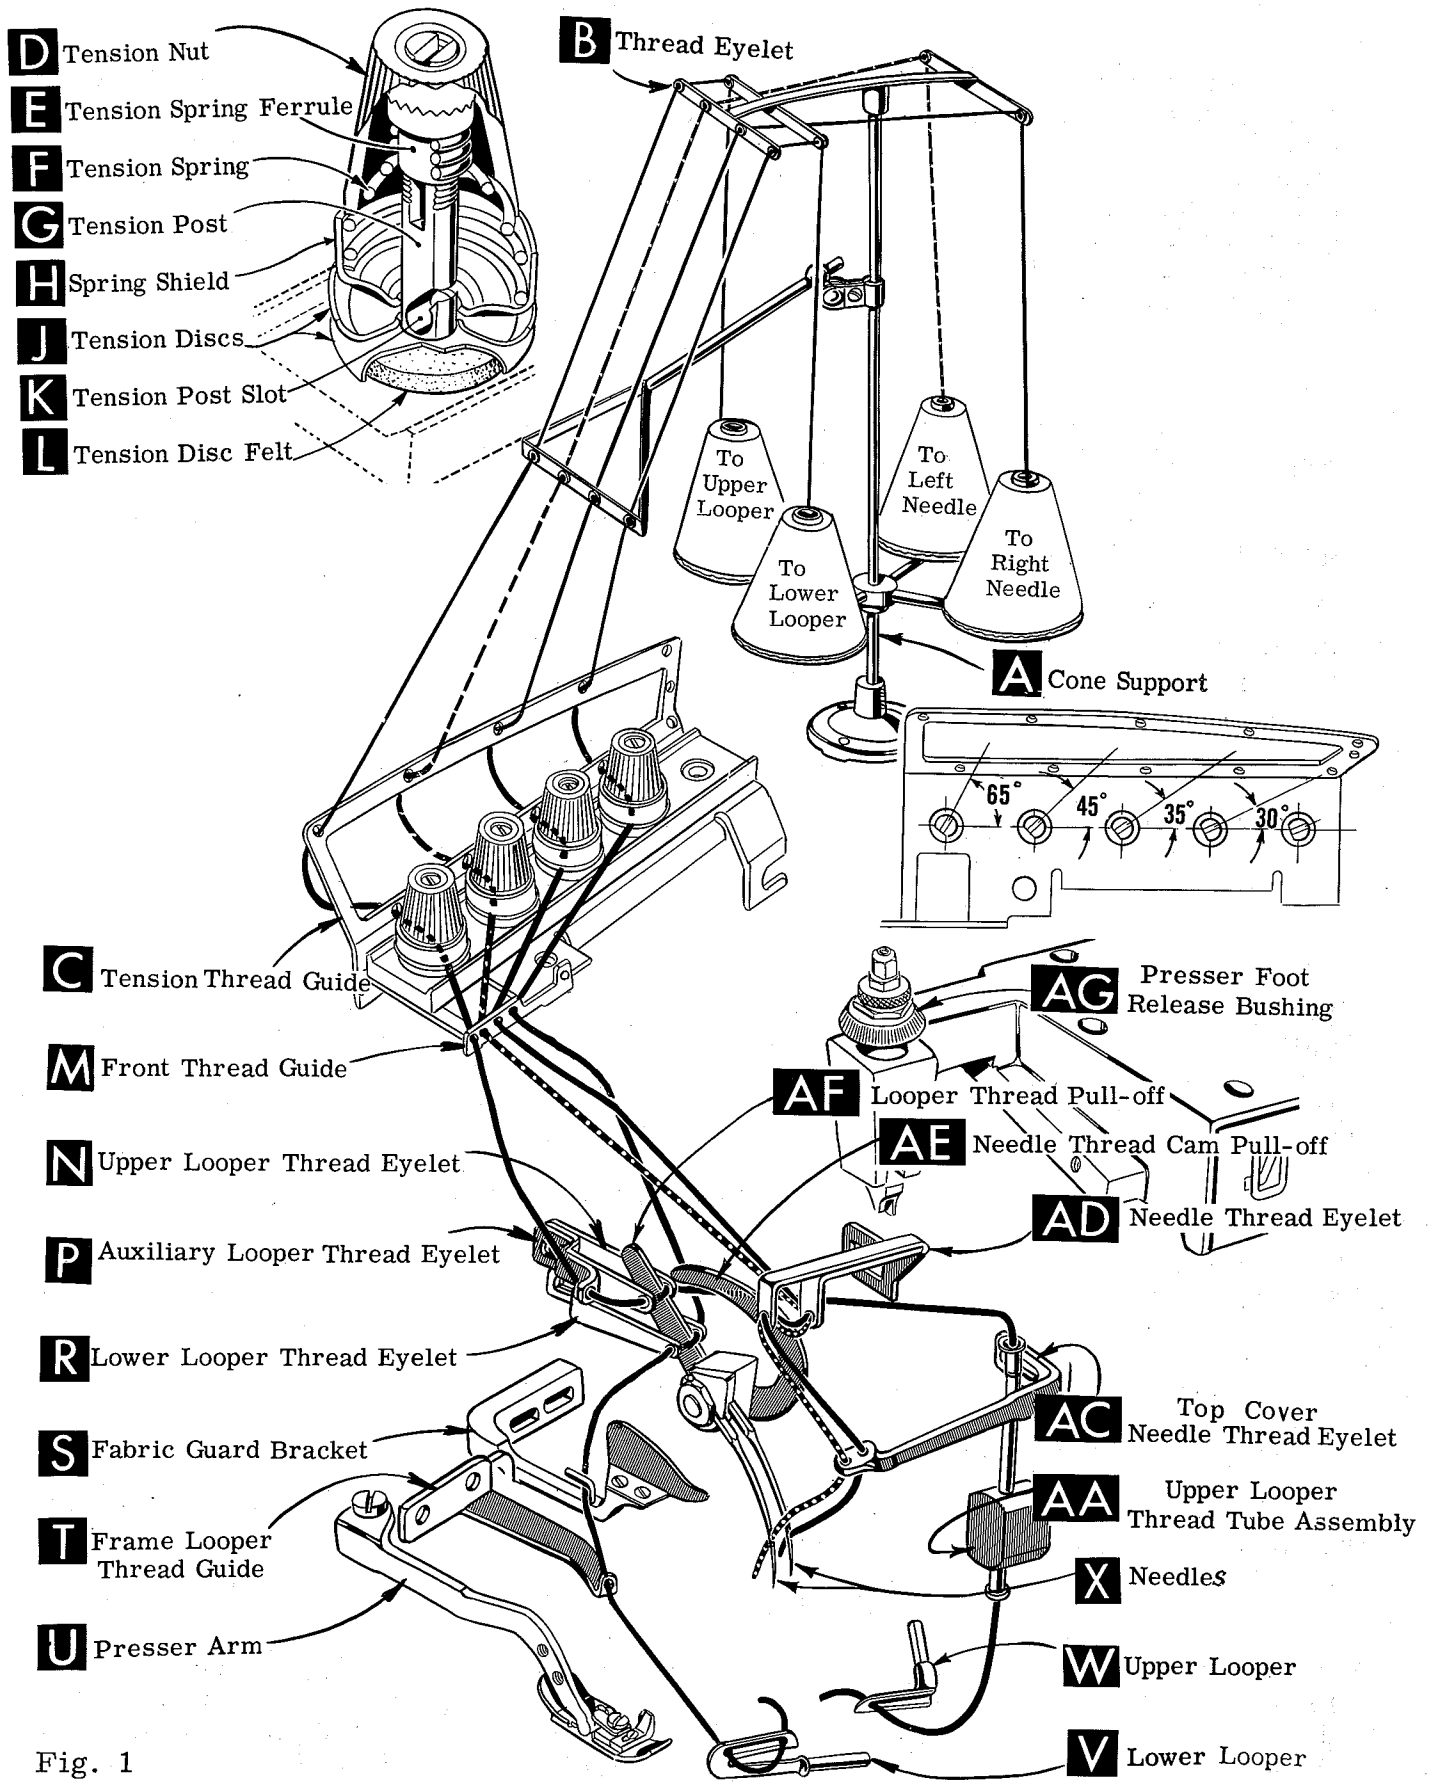

Fig. 1
Release pressure on presser foot by turning presser foot release bushing (AG, Fig. 1) and swing presser arm (U) out of position. Turn handwheel in operating direction until needle is at its lowest point of travel. Using hexagonal socket wrench No. 21388 AU, furnished with machine, loosen needle clamp nut about 1/4 turn. Again turn handwheel until needle is at high position; withdraw needle.
After thread comes from cones on cone support (A, Fig. 1), the needle threads are threaded through the back bar of the thread eyelet (B), under the middle bar and through the center holes of the front bar. The looper threads come from the cones, through holes of the middle bar from back to front and then through the two outside holes of the front bar. Next it is threaded through the upper holes of tension thread guide (C) front to back and then through the lower holes from back to front. The threads continue between the tension discs (J), through tension post slot (K) in tension post (G) and on through front thread guide (M).
Only parts involved in threading are shown in the threading diagram (Fig. 1). Parts are placed in their relative positions for clarity.
Be sure the threads, as they come from the tension thread guide (C), are between the tension discs (J) and in tension post slot (K) in tension post (G). The tension posts should be positioned so the tension post slot will be at the approximate angle for the different threads as indicated in Fig. 1.
Double end of thread and lead it through both eyes of lower looper thread eyelet (R, Fig. 1) from right to left. NOTE: Thread must pass in front of looper thread pull-off (AF). Lead thread behind fabric guard (S) and through hole of frame looper thread guide (T). Turn handwheel in operating direction until heel of lower looper (V) is all the way to the left; then thread through both eyes from left to right. Left eye of lower looper can be threaded easily if tweezers are in left hand.
Turn handwheel in operating direction until needles (X, Fig. 1) are in their highest position. Insert needle threads from right to left, through both eyes of needle thread eyelet (AD), under neck of top cover casting; and then down through holes in top cover needle thread eyelet (AC). The right needle thread should be threaded through the right hole and the left needle thread through the left hole of the top cover needle thread eyelet. Thread needles from the front.
The amount of tension on needle and looper threads is regulated by the tension nut (D, Fig. 1). Tension on threads should be only enough to secure proper stitch formation.
Be sure machine is threaded according to threading diagram (Fig. 1). With thread tensions light, set looper thread eyelets (N and R, Fig. 1) about horizontal and in the middle of their front to back locations. Operate machine slowly, without presser foot in place, to make sure that chain forms and moves off the tongue freely. Swing presser foot into position, insert material, and sew slowly.
While sewing on material, check needle thread control as follows: Usually all needle thread is drawn on needle down stroke. At top of needle stroke, thread should be just tight enough to feed chain off stitch tongue. Stitch tends to pull down slightly if excessive thread is pulled on the up stroke. With needle at bottom of stroke, position needle thread eyelet (AD, Fig. 1) so that needle cam pull-off (AE) just contacts needle thread.